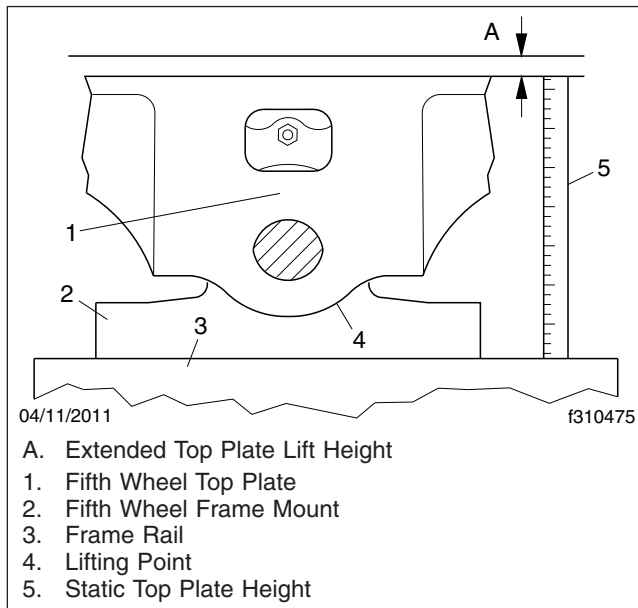

Fig. 7, Measuring Fifth Wheel Top Plate Lift
7. Level the fifth wheel plate to a horizontal position. Measure the height from a stationary mounting point (see **Fig. 7**, Ref. 3), such as the frame rail to the top of the fifth wheel plate (Ref. 1). Pry up on the fifth wheel plate (Ref. 4) below the pin boss, and measure the vertical movement (Ref. 5). The bracket connection provides a 9/32-inch (7-mm) vertical clearance to provide cushioning and to avoid downward pin-loading while retaining minimum plate lift. If the plate lift (Ref. A) exceeds 5/16 inch (8 mm) as a result of wear or rubber deterioration, install new, standard or oversized bracket-shoe rubber pads; see **Group 31** of the *Columbia® Workshop Manual* for replacement instructions.